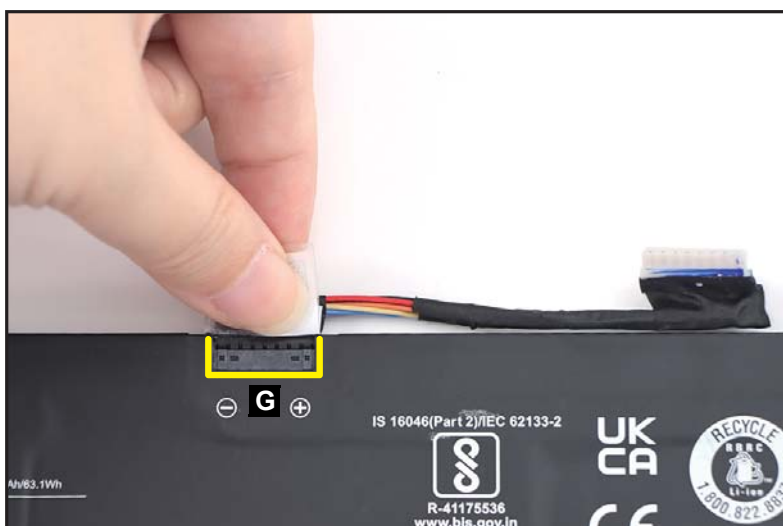

Figure 1-10. Battery Pack Removal
7. Disconnect the battery cable from the battery connector (G) (Figure 1-10). Then remove the cable.